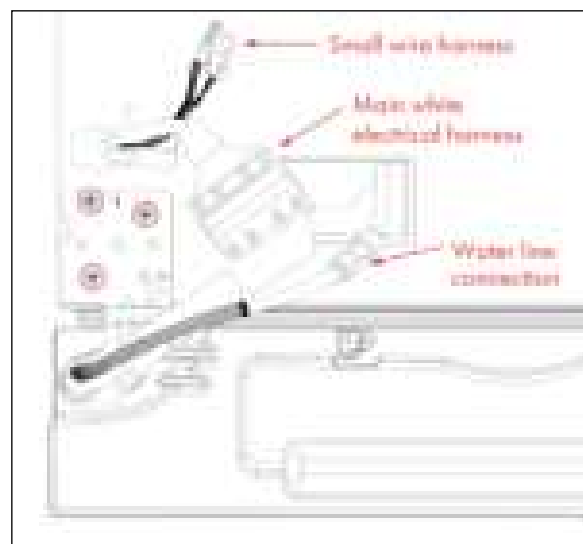

Figure 3
3. On the left door, disconnect both small harnesses. Next, disconnect the water line by removing the small blue clips and pushing the gray rubber tab to pull the line out from both sides. Lastly, disengage the large white electrical harness by removing the plastic cover, then pushing the clip in the middle of the harness to pull apart (see *Figure 3*).
4. With a second person holding the door in place, remove the 3 screws securing the left door to the black hinge as circled in *Figure 3*. Set the screws aside.